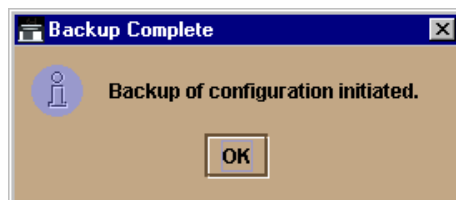

Figure 3-32: Backup Complete Dialog Box
4. Click Backup. When the backup process finishes, the Backup Complete dialog box (Figure 3-32) displays.